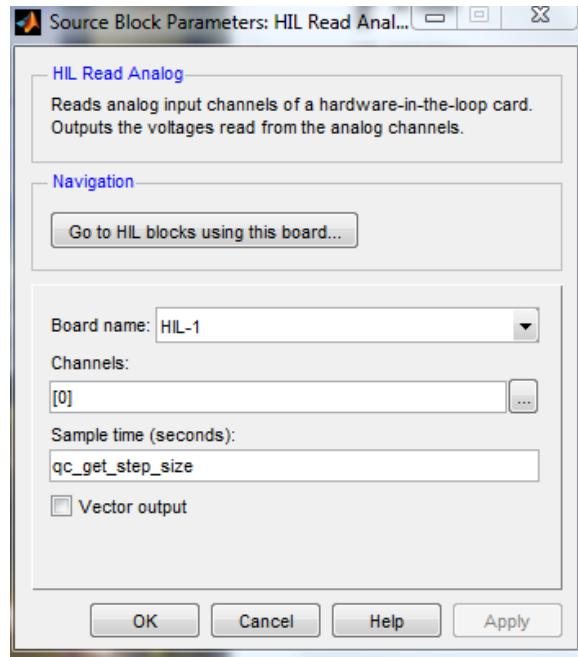

Figure 1.3: HIL Read Analog block settings
11. The input and output channel numbers in the **Simulink** blocks should match the channels used on the terminal board. Refer to Figures 1.3, 1.4, and 1.5 for the correct channels.